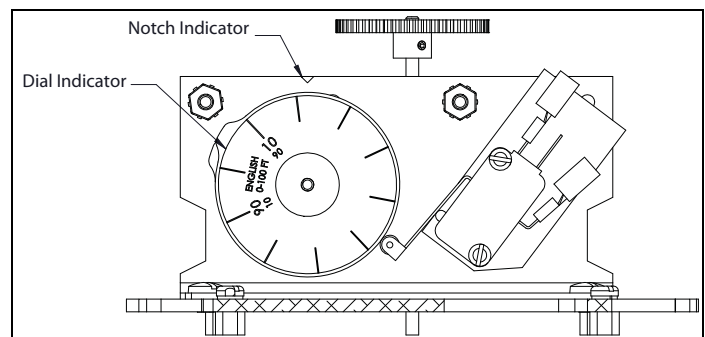

Figure 5-4: Dial and Notch Indicators
3. Rotate the 2910 FTT encoder shaft until the level reading to activate the switch is displayed on the dial indicator (see Figure 5-4).